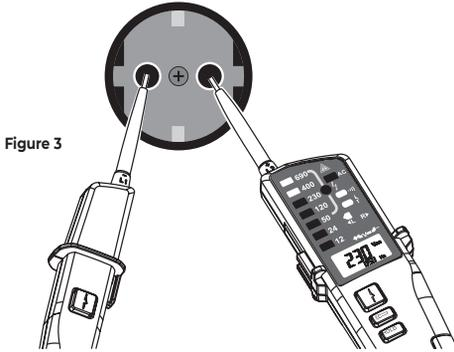

Figure 3
Complete self-check of tester before test. After pressing flashlight key 5s, tester would perform AC/DC full range detection, accompanied by flashing LED (with exception to RCD light) and blinking displayed LCD. If need to exit self-check, just touch the flashlight key. Connect two test pens to the conductor to be measured, select a known voltage for measurement, such as 220V socket, and ensure the measurement accuracy (See Figure 3). The tester cannot measure AC and DC voltage less than 5V and provides no accurate indication while measured voltage is 5Vac/dc. Illuminating continuity light or AC light and beeping buzzer are normal.